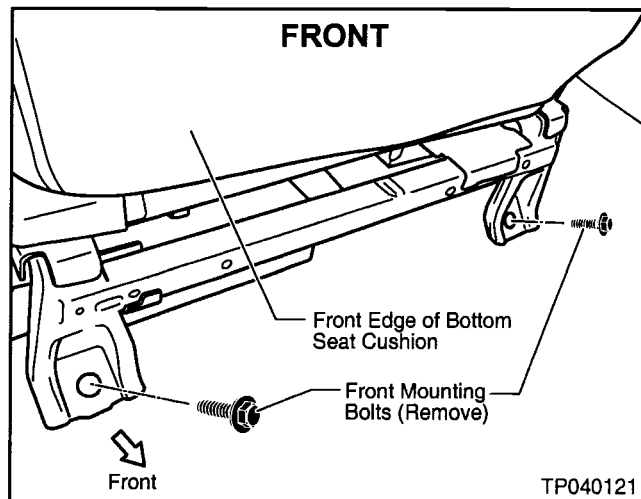

Figure 6
9. Remove the two Mounting Bolts that secure the front of the seat frame (see Figure 6).